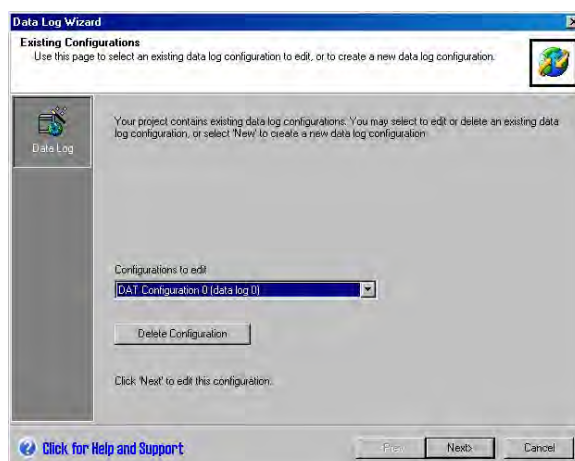

Figure 14-4 Edit Existing Data Log Configurations
1. Click on the configuration dropdown list and select an existing data log configuration as shown in Figure 14-4.